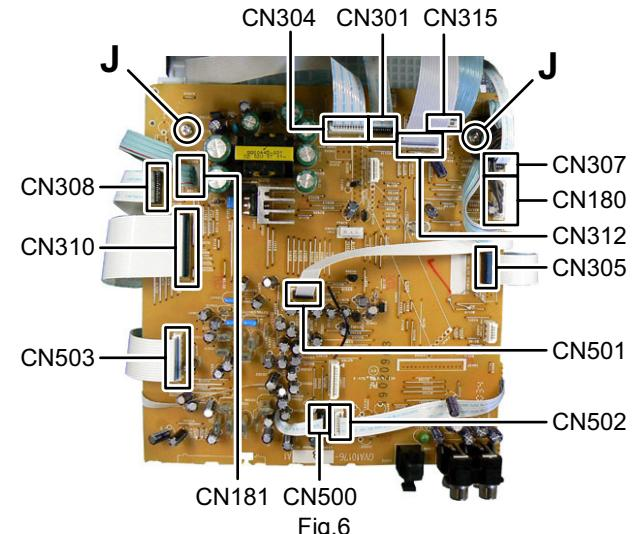

Fig.6
3.1.3 Removing the Main board (See Fig.6)